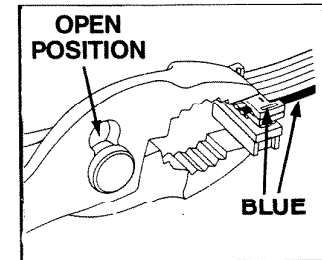

FIGURE 5
- (C) Using a standard pair of slip-joint pliers in the open position, clamp the cable and connector together tightly. See Figure 5. (This will automatically make the wire connection to the connector.)